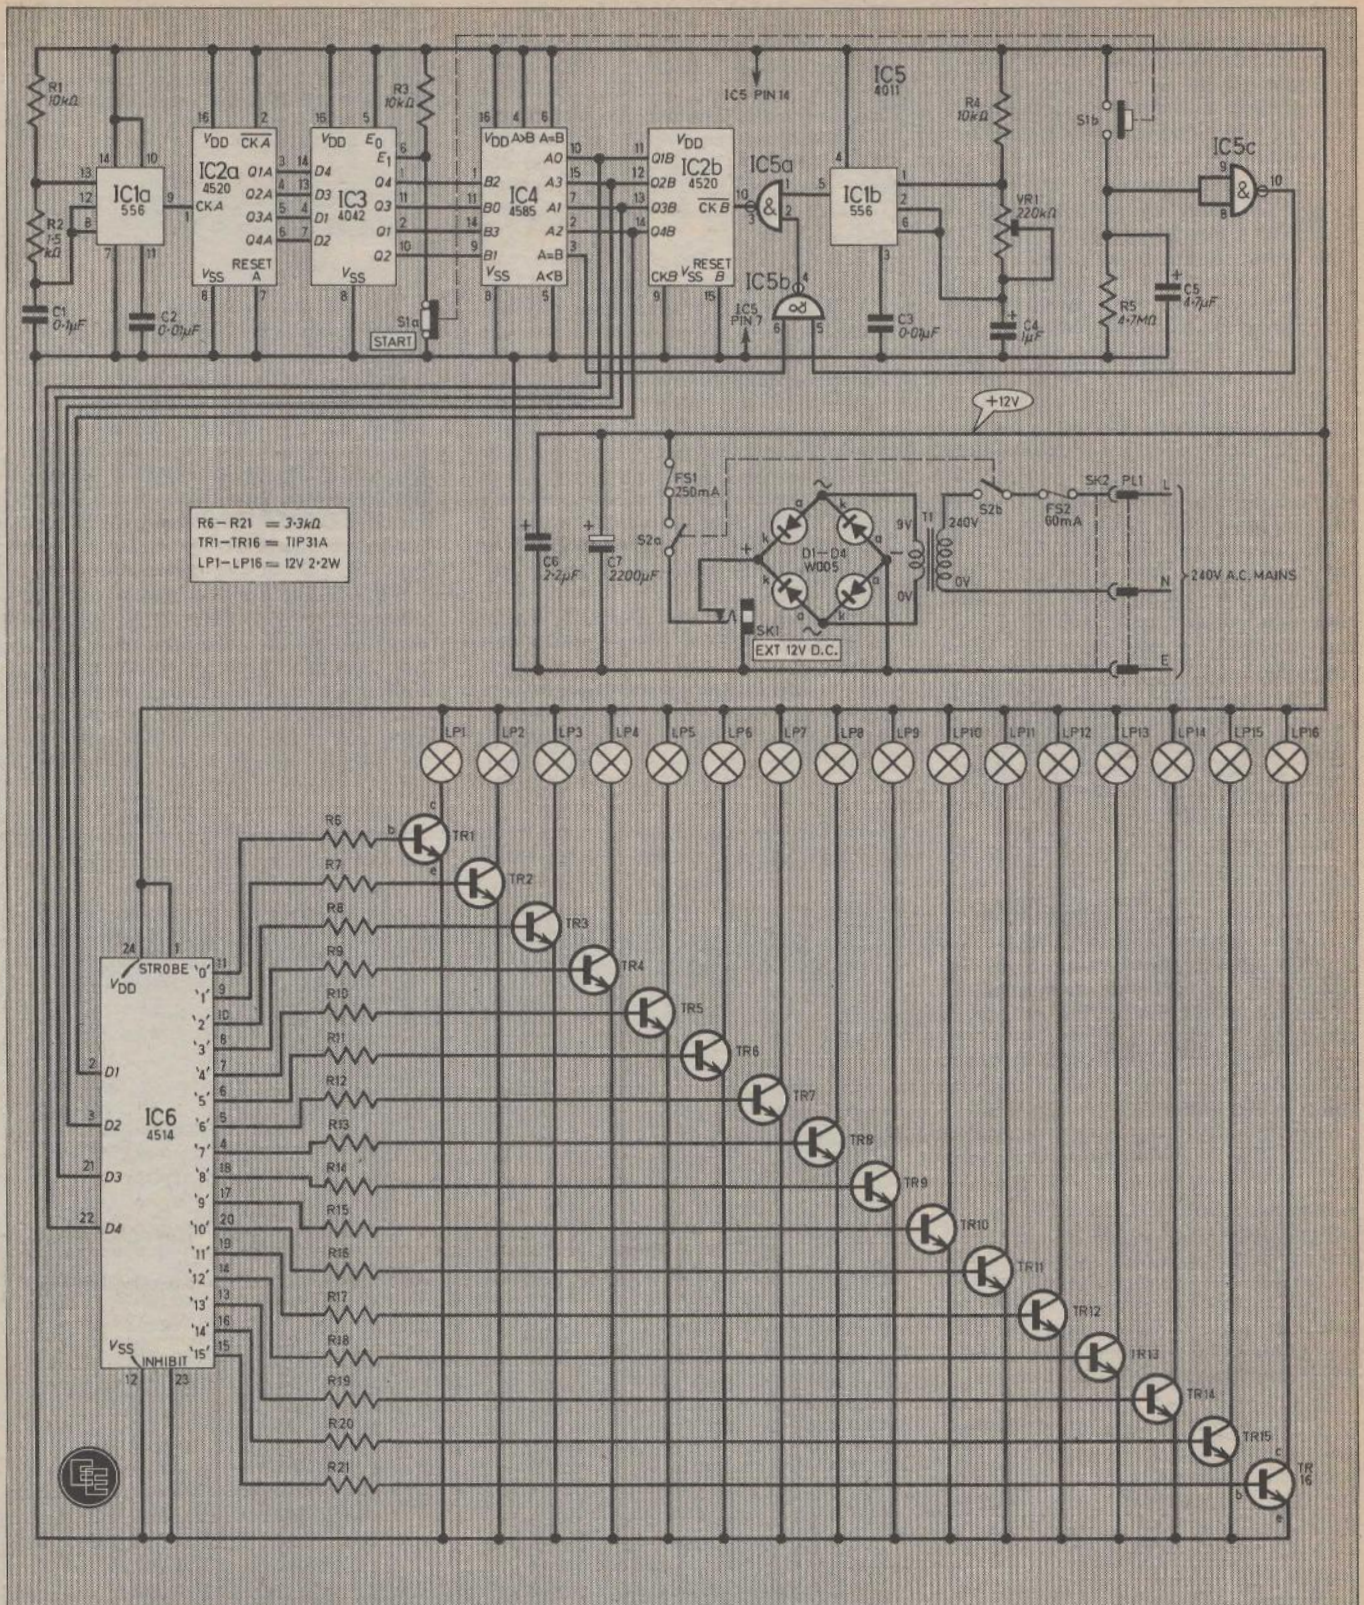

Fig. 1. The complete circuit diagram for the Wheel of Fortune.
The complete circuit is shown in Fig. 1. and for ease of description can be split into the following sections: (1) power supply (2) random number generator (3) display decoder driver circuit.